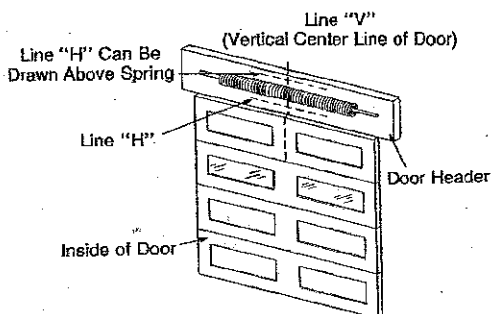

Fig. 2 Establishing center line
1. Establish center line of door and header (Fig. 2.)